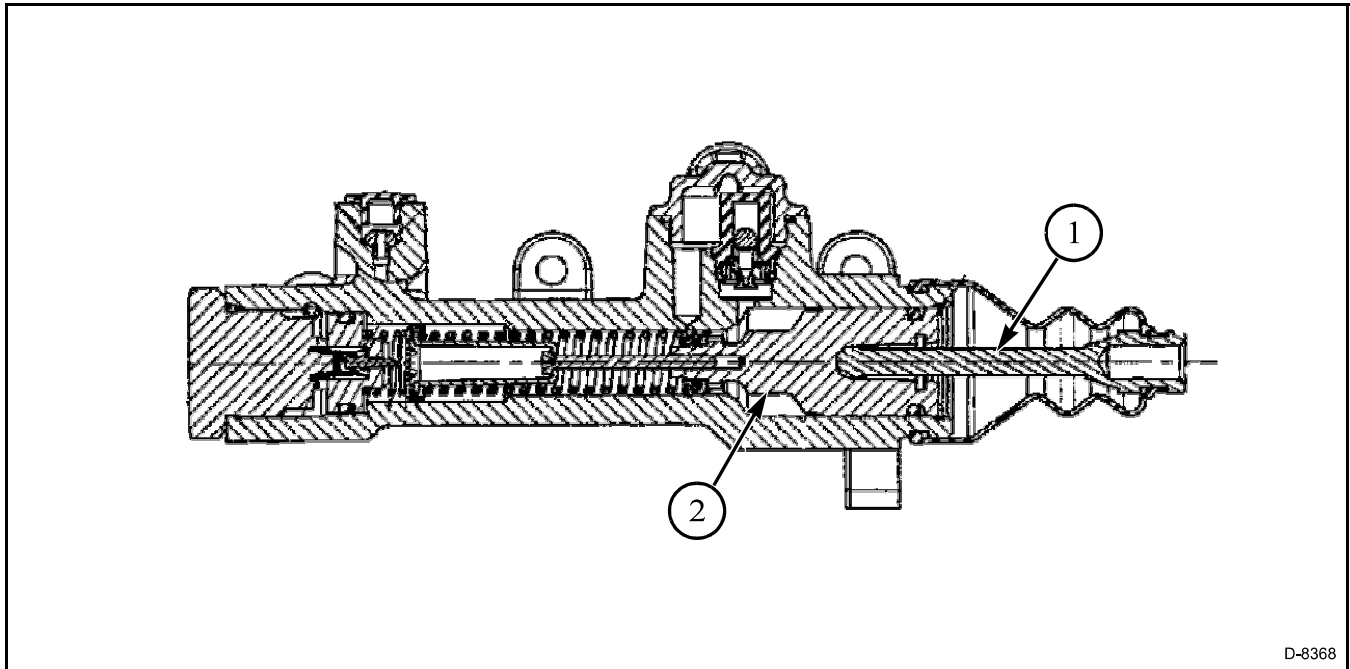

FIG. 12
FIG. 12: When one brake pedal is depressed, the push rod (1) forces the piston (2) forward in the cylinder bore. The lip of the primary cup (3) seals off the compensation port (5). The initial travel of the piston assembly forces the poppet control spring (8) to compress permitting the piston to mechanically unseat the poppet (4). Fluid under pressure can pass the poppet (4) and flow across the equalizing port (10) to the other master cylinder bore. Because the poppet in the non-activated cylinder bore is still on the poppet's seat, brake fluid flow/pressure is stopped at this point.